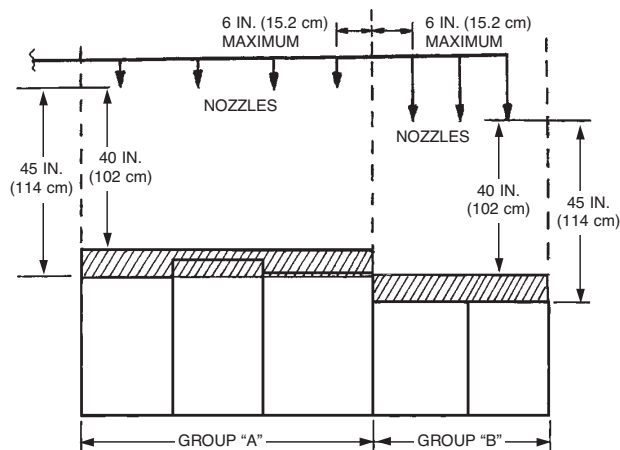

FIGURE 91h
4. On protected appliances, all hazard surfaces located in a group must be within 40-45 in. (102-114 cm) from the nozzle(s). Once that dimension is exceeded, a new group must be started. See Figure 91h.